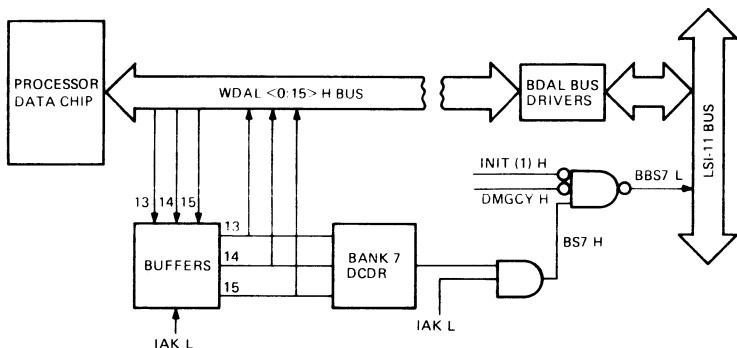

Figure 14-7 Bank 7 Decoder
**Bank 7 Decoder** — The bank 7 decode circuit is illustrated in Figure 14-7. Buffers receive WDAL <0:15> H bits and distribute them to the bank 7 decoder and BDAL bus drivers. Bank 7 is decoded during the addressing portion of the bus cycle. If a peripheral device address is referenced, an address in bank 7 (28-32K address space) is used, and WDAL <13:15> H are all active (high). This address is decoded and